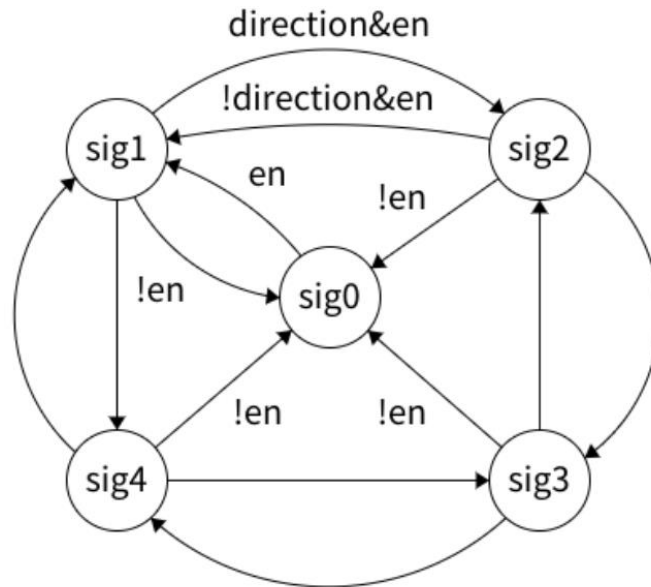

Fig. 7. Finite state machine of cut\_driver.v
**Fig. 7.** shows the finite state machine of the controller. There are mainly five states for the FST: **sig0**, **sig1**, **sig2**, **sig3**, **sig4**. At the beginning, we start from **sig0** stage. And the input signals, en and direction, from controller, specify whether to drive motors and the direction of motors. The output four-bit signal signal\_o is corresponding to full-stepping mode which consumes more power but with larger torque. This driver module is used to drive the module of step motor 28ybj-48. The 28BYJ-48 is a small, cheap, 5 volt geared stepping motors. Below figure shows the step motor 28ybj-48 and the stepping methods of step motor.